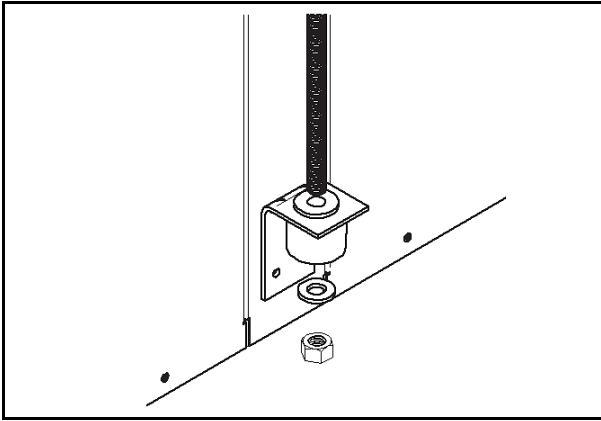

Fig. 9 Threaded Rod
3. Install rubber grommet onto the brackets as shown in Fig. 9.
4. Hang the unit and assemble the field-provided threaded rod, nuts, and washers on to the brackets as shown in Fig. 9.